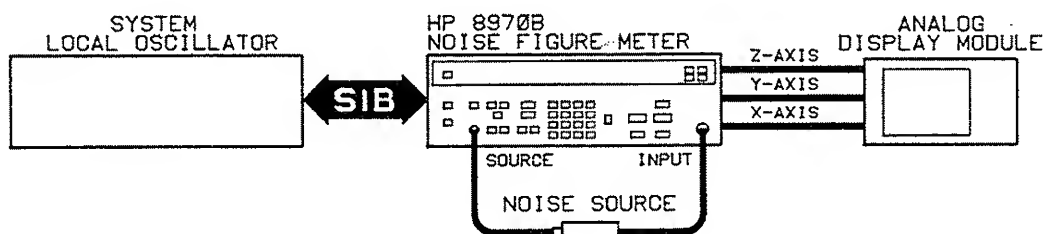

Figure 3-11. Basic Functional Checks Setup
3. Enter the Excess Noise Ratio (ENR) data for the noise source being used. For more information, refer to the ENR Table Entry Detailed Operating Instruction. Connect the noise source between the Noise Figure Meter's SOURCE and INPUT (see Figure 3-11). Verify the NOISE FIGURE display shows approximately 5 dB.